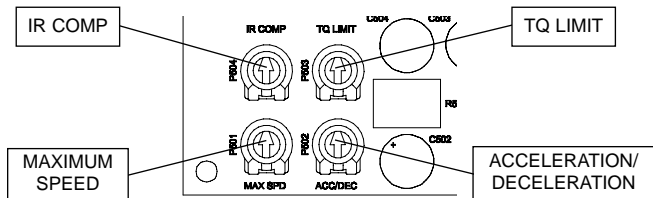

Figure 9. Calibration Trimpot Layout
All adjustments increase with clockwise rotation (CW), and decrease with counter-clockwise rotation (CCW). Use a non-metallic screwdriver for calibration. Each trimpot is identified on the printed circuit board. (see Figure 9)